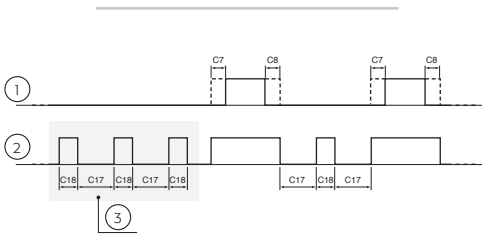

Fig. 5.a.i
**c18:** This represents the minimum time that the pump remains ON for, see Fig. 5.i (active with H05=3 see parameter H05).